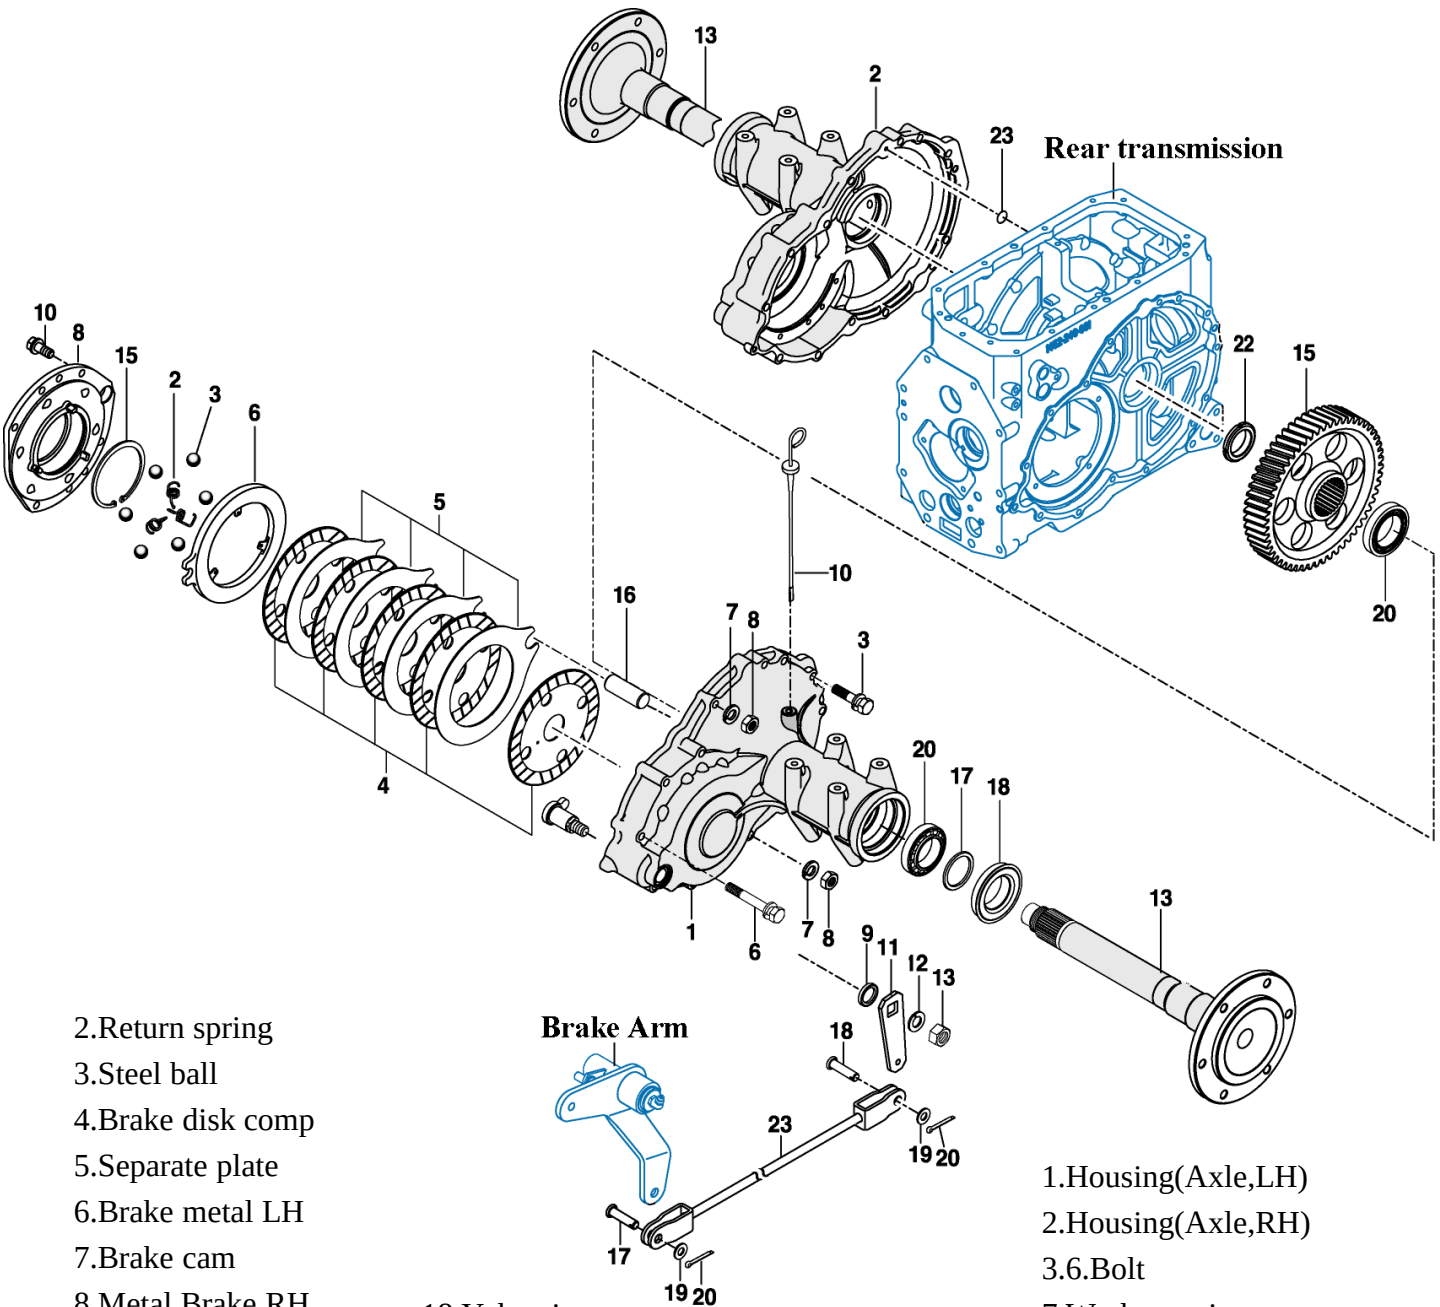

Fig. 7-2
- 3) Detach the brake arm and the cam from the brake cover (Fig.7-2)